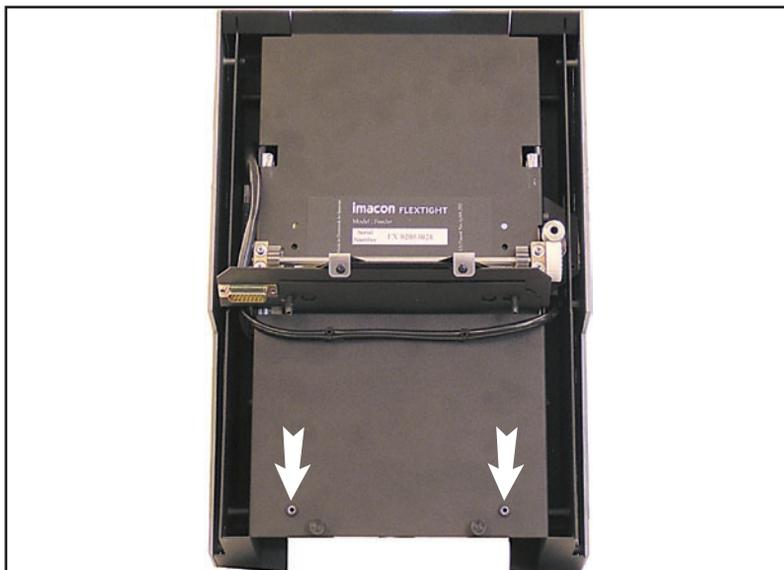

Figure 11: Holes for inserting the shipping screws on the back of the Feeder
3. Examine the bottom of the back side of the Feeder and locate the two holes used to secure the magazine during shipping (see Figure 11, below). Insert the shipping screws into these holes and tighten them into place so that the magazine is secured.